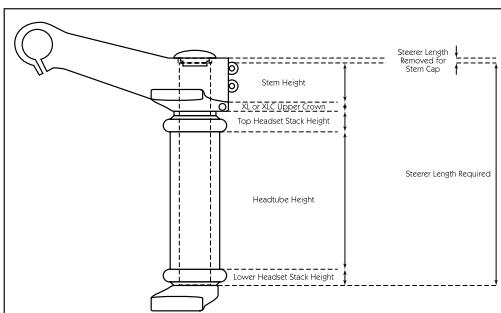

Fig. 3
3. The steerer tube may need cutting to proper length. To cut the steerer tube, removal of the upper tubes are required. This is necessary otherwise the upper tubes will be in the way when cutting the steerer tube to proper length. The steerer tube length is determined by the following parts: Judy XLC upper crown steerer clamp length, stem steerer tube clamp length, frame head tube length and top and bottom headset stack height (see Fig. 3). To ease in the assembly, do not install the Judy XLC upper crown on to the upper tubes until the steerer has been cut to the proper length and the lower crown has been fastened in the required position. HINT: MEASURE TWICE AND CUT ONCE!